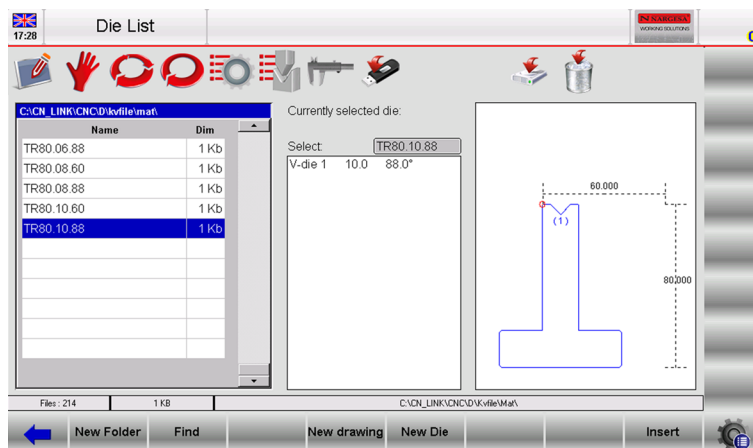

Figure 21 Die list page, example of die insertion
- Enter the **die** that will be used from the list touching with a finger on the field, scrolling the toolbar in order to choose the die and pressing the button **[Insert]** (the die must already have been drawn), like showed in the figure 21.